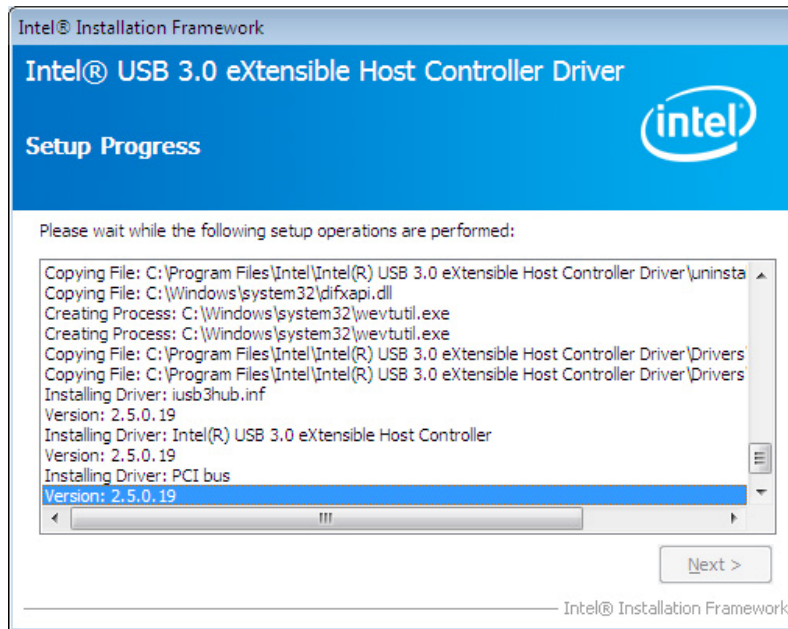

Figure 6-25: USB 3.0 Driver Setup Operations
Step 8: **Setup Operations** are performed as shown in **Figure 6-25**.